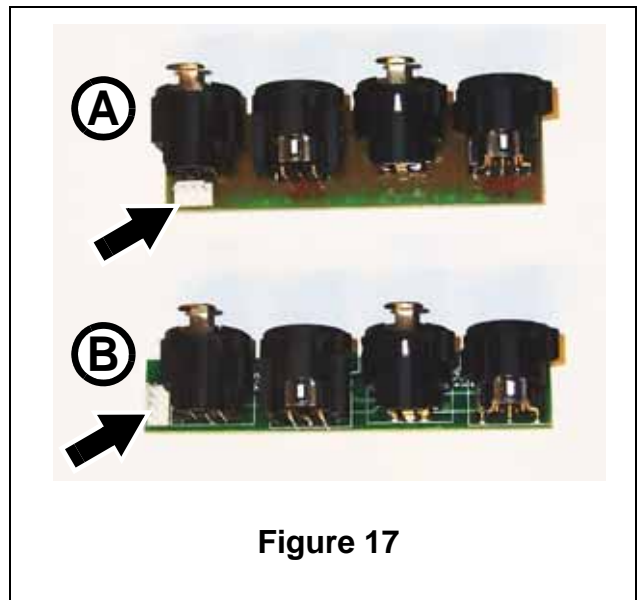

Figure 17
18. See Figure 17. Two types of XLR connector modules have been fitted to the MAC 2000 Wash. If your fixture has the wider type module **A** with the 4-pin connector (arrowed) behind the XLR sockets, there will not be enough space to install the new ballast so you must replace the module with the narrower type **B** with the 4-pin connector (arrowed) in line with the sockets at the end of the PCB. A module type **B** is supplied in the Upgrade Kit (P/N 62004554, see “H” in Table 1). If the narrower type module **B** is already installed, just keep the module supplied in the Upgrade Kit as a spare.